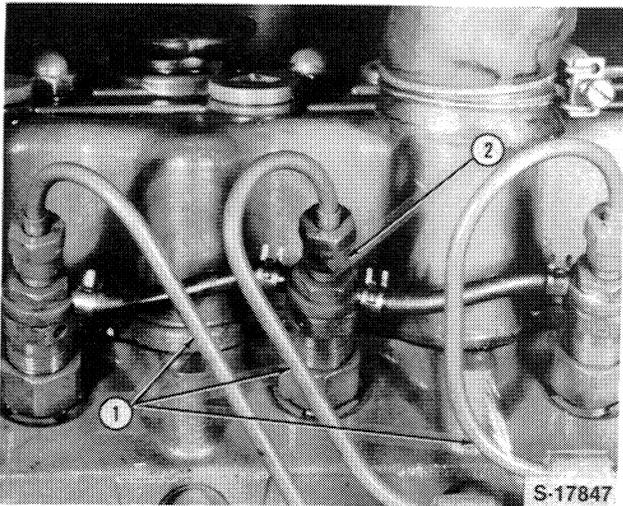

Figure 5
6. Remove the injection lines and cap all openings, Figure 5.
7. Remove the injector assemblies, Figure 5.